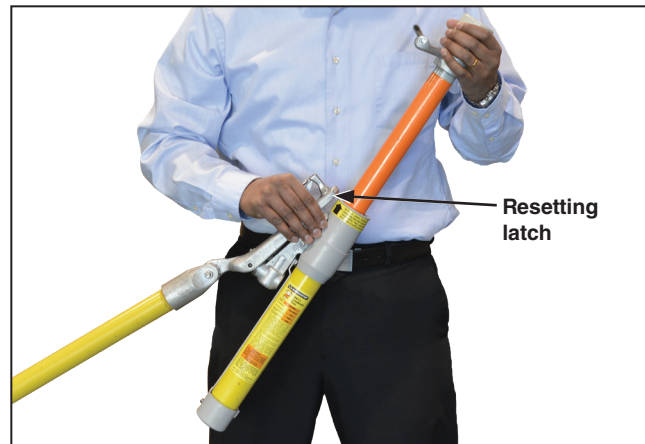

Figure 7. Resetting a Loadbuster tool
STEP 5. To reset the Loadbuster tool for the next operation: Hold the tool as shown in Figure 7. Extend the tool slightly and lift the resetting latch with your thumb. With the latch up, telescope the tool completely so the trigger can reset itself. Depress the telescoping tube until the orange paint on the inner tube assembly is no longer visible.